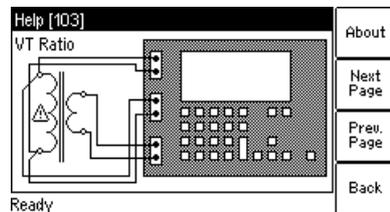

Figure 9-9 Wiring example for VT ratio measurement
1. Connect the "Output" sockets and input "Sec" of the *CT Analyzer* to the primary side of the VT and input "Prim" of the *CT Analyzer* to the secondary winding of the VT (see Figure 9-9).